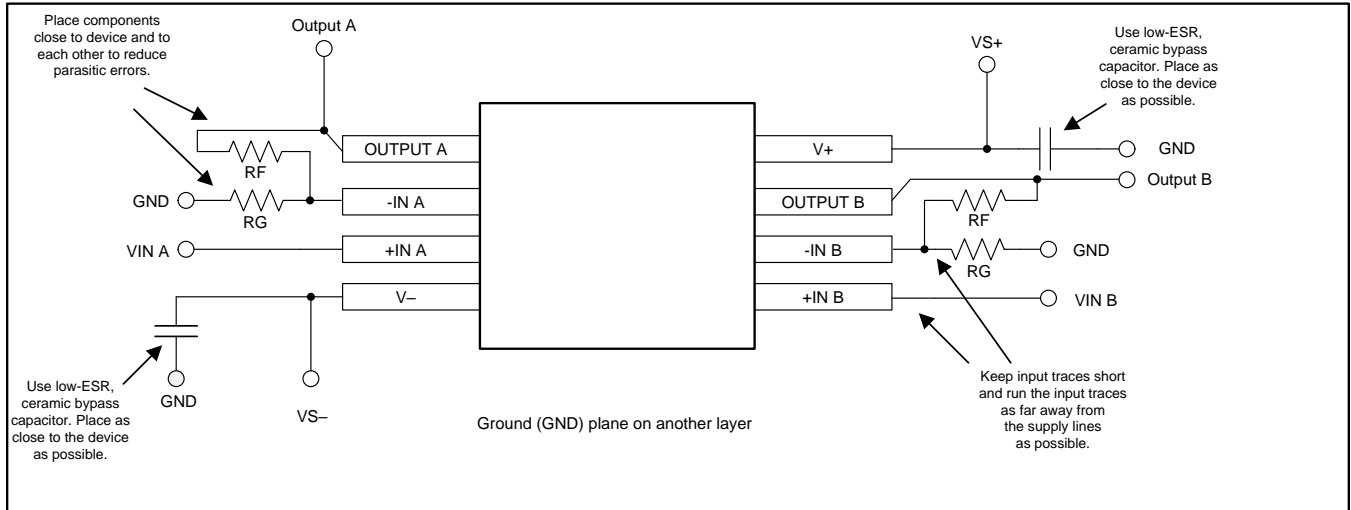

图 42. Operational Amplifier Board Layout for Noninverting Configuration
- Place the external components as close to the device as possible. As shown in Figure 42, keeping R_F and R_G close to the inverting input minimizes parasitic capacitance.